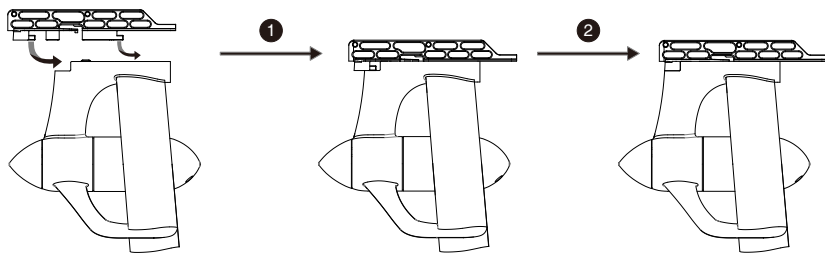

Figure 3-1
- 1) Attach the US fin box adapter onto the motor base (Figure 3-1). First align the adapter with the motor base; then insert the adapter into the motor base until it is well attached.